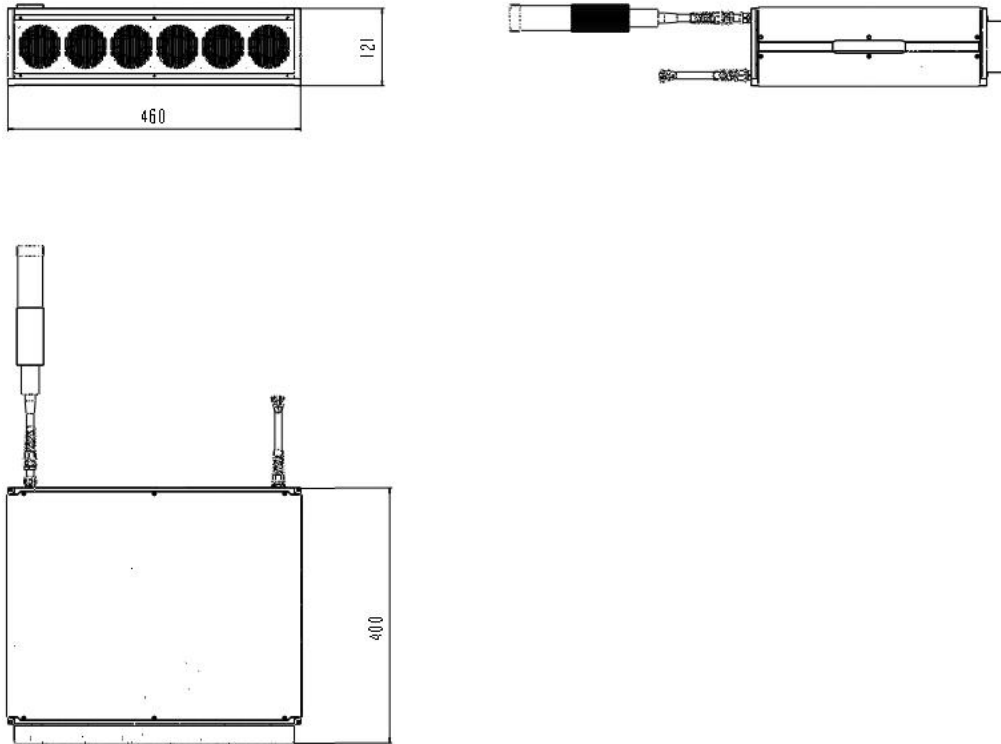

Figure 1. Dimension drawing of laser module(Unit: mm).
1) Fiber Laser module dimensions (As shown in Fig. 1).